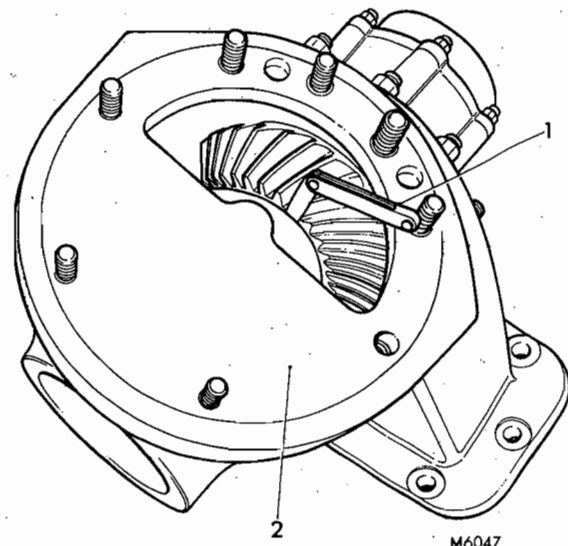

FIG. 1 APEX SETTING GAUGE APPLICATION
8. Secure gauge 2VRS226SZ as shown in Fig. 1. Measure clearance between gauge and face of pinion; adjust shim pack thickness as necessary to give feeler gauge clearance as etched on face of pinion.